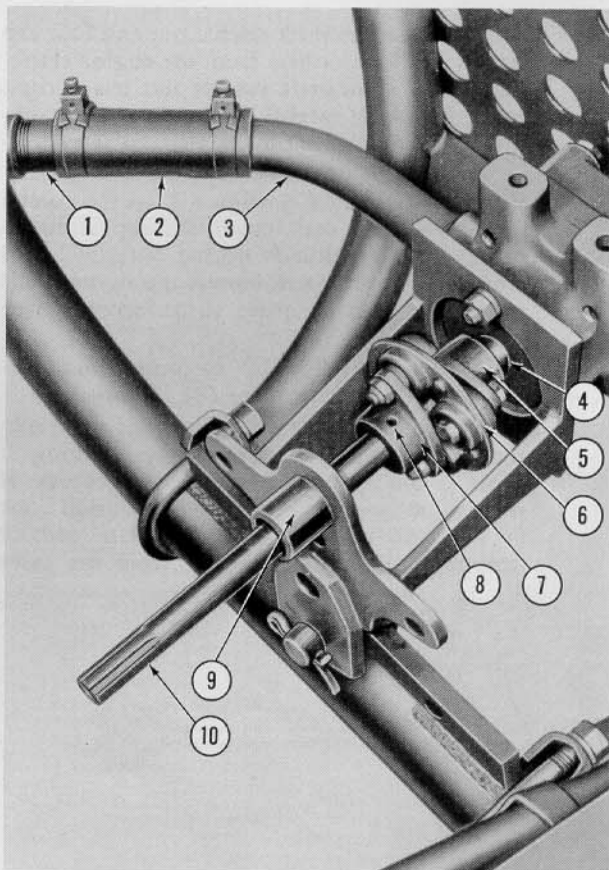

Figure 7
- a. Clean the mounting bracket guide (9), Figure 7, thoroughly with emery cloth.
- b. Position the Morflex coupling (6), Figure 7, with flanges attached, inside the pump mounting bracket. With the Woodruff key in place, insert the drive shaft (10) through the guide (9) and tap the shaft lightly into the flange (7), until the Woodruff key is fully engaged, with the shaft end  $\frac{1}{8}$ " short of being flush with the flange face. Secure the shaft by tightening the Allen screw (8).
- c. Position the flange (5), Figure 7, on the pump shaft (4), but do not tighten the set screw at this time.
- b. Remove the hose section (2), Figure 7, by loosening the screw clamps.
- d. Attach one end of a length of hose to the pipe (3), Figure 7. Place the other end in the hydraulic fluid or kerosene to be used for flushing.
- f. Replace the drain plug in the loader frame and flush through the frame outlet (1), Figure 7. Reattach the hose (2), Figure 7, and retighten the clamps securely.